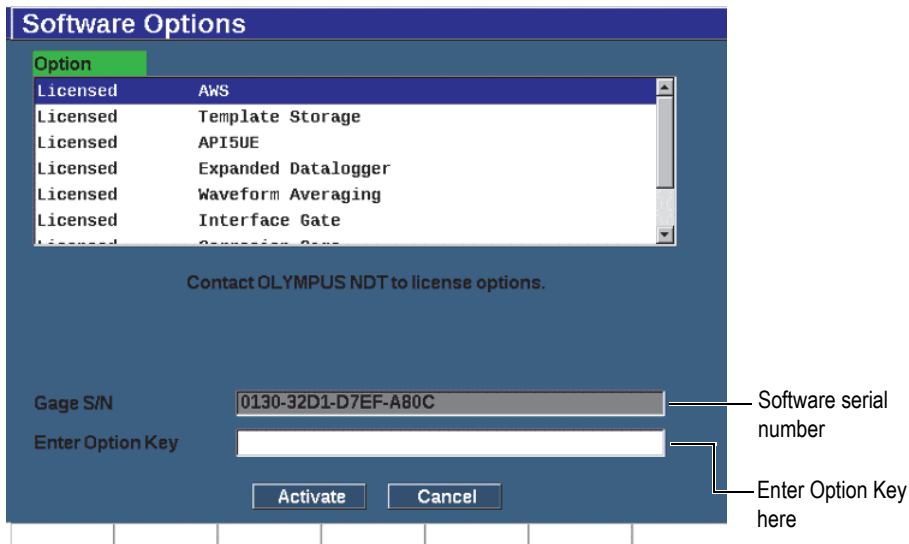

Figure 11-1 The Option key entry dialog box
2. Press **Software Options** (P4 key) to open the **Software Options** setup page (see Figure 11-1 on page 238).
7. Enter the activation code in the **Enter Option Key** field (see Figure 11-1 on page 238).